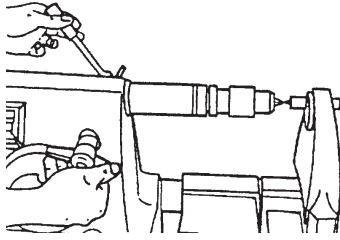

Figure 109
5. Loosen the Quill Lock. Extend the Quill (shown in Figure 109), so the Drill Chuck almost touches the Cup Center Point and the Center Point could fit into the Chuck Jaws.